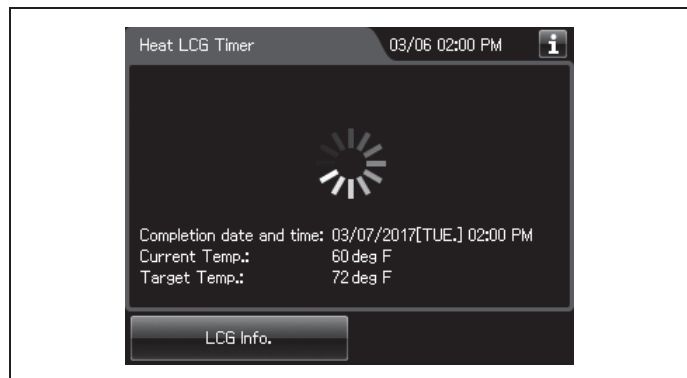

Figure 7.15
- If no operation is made more than 5 minutes, the touch screen appears to turn off. To display the touch screen again, press the touch screen or the button on the control panel. For detail of executing, the touch screen displays a screen as shown Figure 7.15.